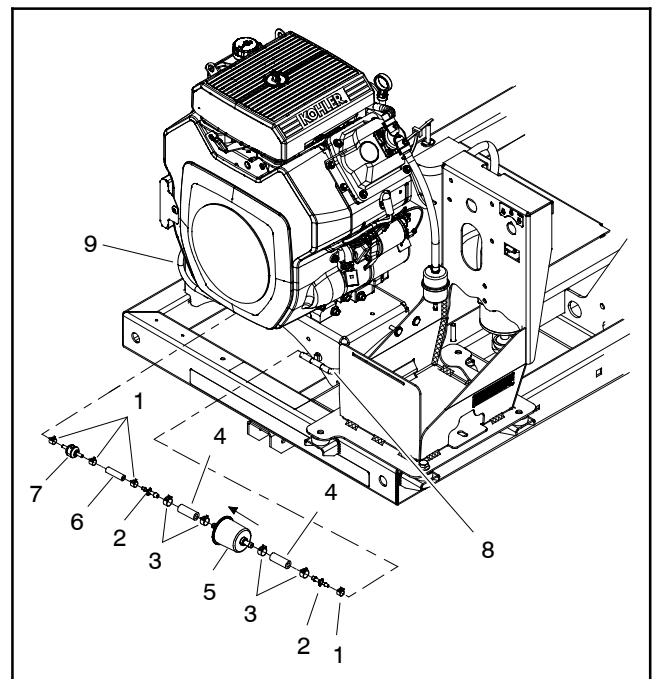

Figure 13
A. If check valve (item 7 in Fig. 13) is removed, note direction of arrow on valve body for assembly purposes.
B. If filter (item 5 in Fig. 13) is removed, note direction of arrow on filter body for assembly purposes.
A. If check valve (item 7 in Fig. 13) was removed, make sure that arrow on valve body points toward engine.
B. If filter (item 5 in Fig. 13) was removed, make sure that arrow on filter body points toward engine.